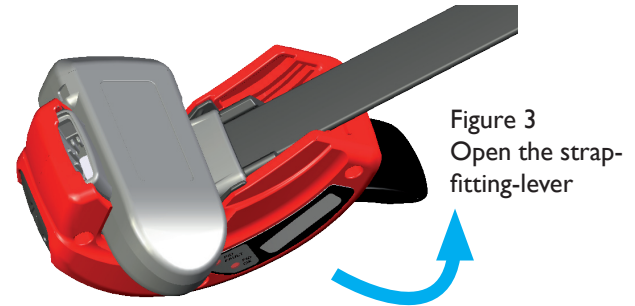

Figure 3
5. Open the strap-fitting-lever until you hear a click. **(Figure 3)**